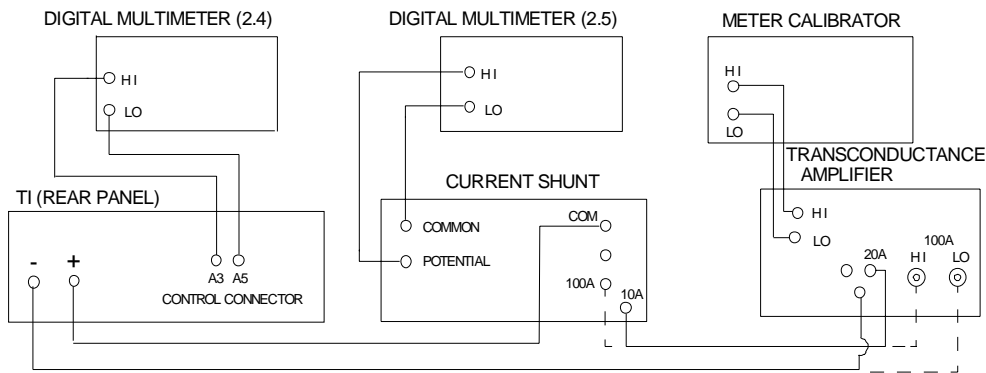

Figure 4.*
4.2.6.1 Connect equipment as shown in Figure 4.